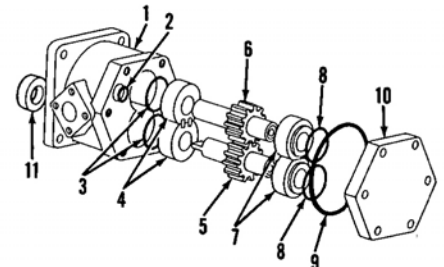

Fig. 98 - Exploded view of hydraulic gear pump.
**96. OVERHAUL.** Remove the six screws securing end cover (10 - Fig. 98), then separate end cover (10) from pump body (1). Remove "O" rings (2, 8 and 9). Extract outer bushings (7). Remove idler gear (6) and drive gear (5) by lightly tapping shaft end of drive gear (5) with a suitable mallet.
Remove inner bushings (4 - Fig. 98) and "O" rings (3). Remove oil seal (11).